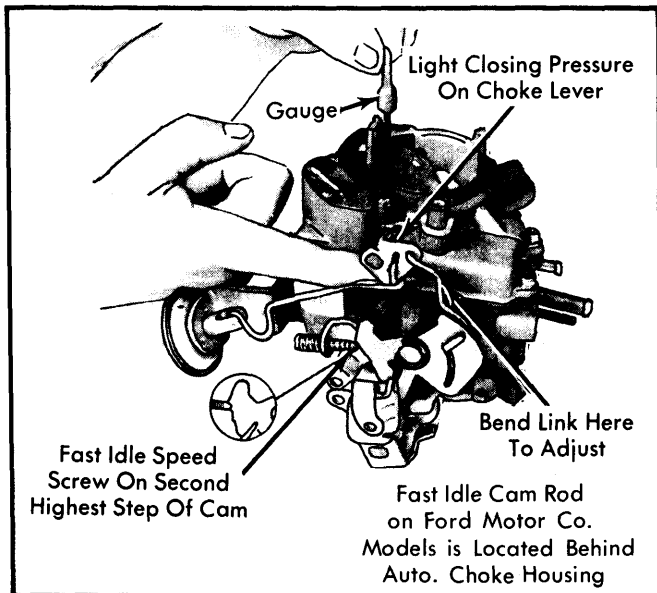

Fig. 3 Adjusting Fast Idle Cam Position (Chrysler Corp. Model Carburetor Shown)
1) Position fast idle speed screw on second step of fast idle cam against shoulder of highest step. Hold choke valve toward closed position with light finger pressure. See Fig. 3.